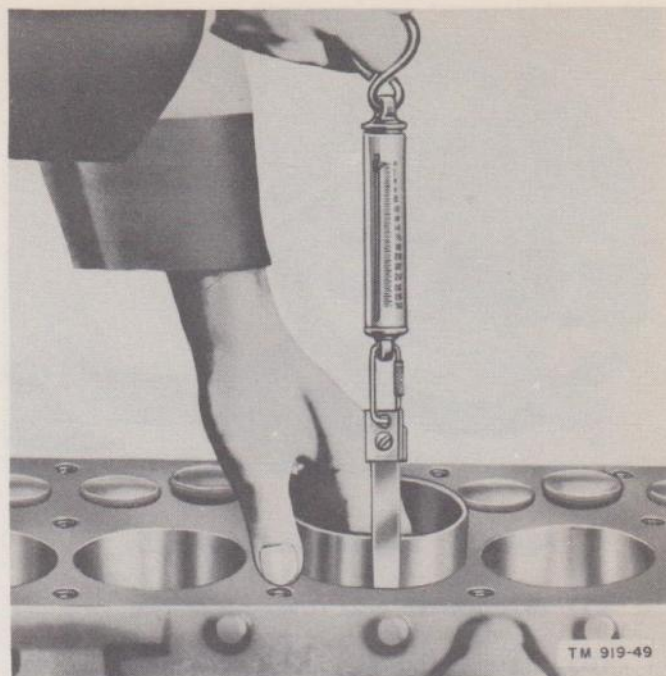
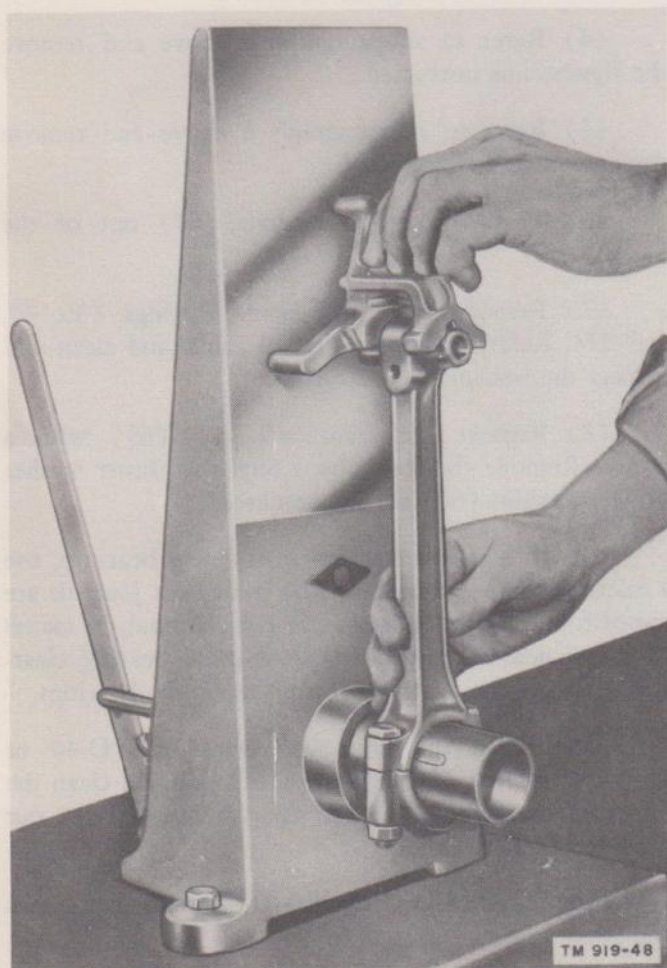

Figure 49. Checking piston clearance.
Figure 48. Alining connecting rod.
(13) Check the connecting rod on an alining fixture as shown in figure 48.
(14) Examine the bearing for chipping, scoring, and cracking. Examine the back of the bearings for bright spots, which indicate a loose fit in the caps.
(15) Clean the bearings and caps with oil (D-40 or D-35) or solvent (SD).
(16) Measure the clearance between the piston and cylinder wall as follows: Insert an inverted piston into the cylinder. Then measure the clearance with a .003-inch, 3/4-inch wide feeler gage as shown in figure 49. This should give a 5-pound to 10-pound pull when being removed. (The gage should extend the full length of the piston on the thrust side, opposite slot.)
(17) Scrape the carbon from the ring grooves and soak the pistons in solvent (SD). After soaking, clean the grooves again to be sure all carbon has been removed.